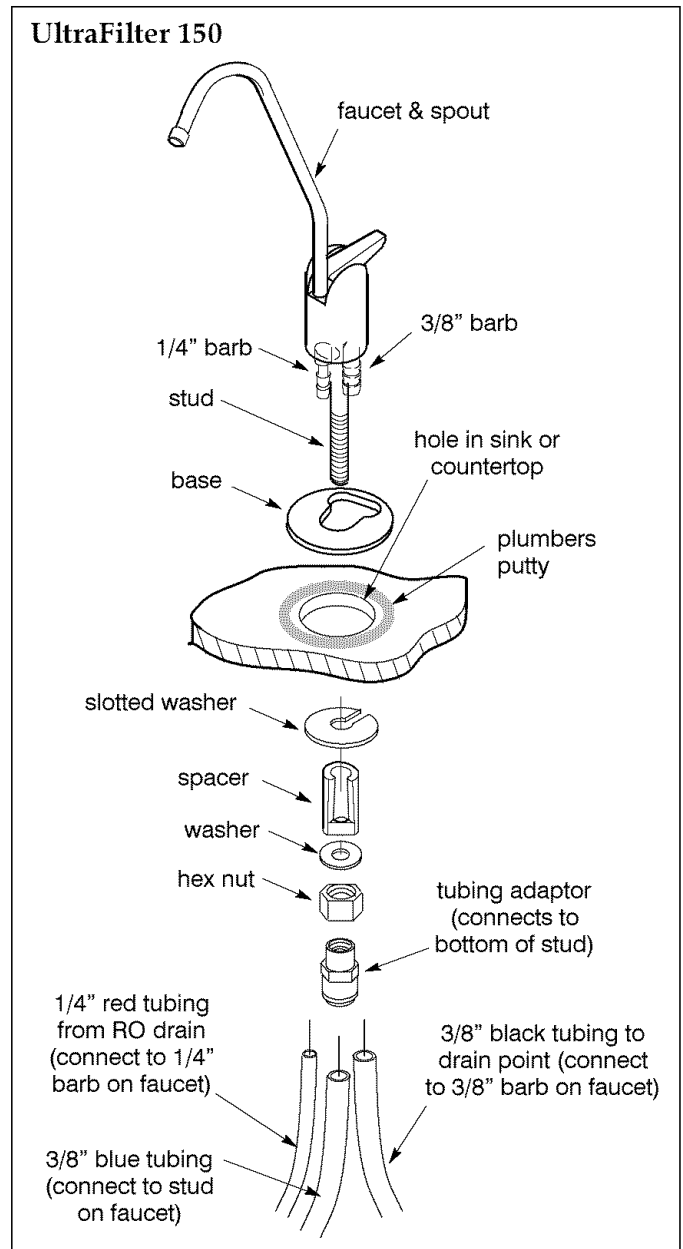

Figure 6
3. Place plumbers putty around the drilled hole (Figure 6 and Figure 7) to prevent water leakage around the base of the faucet.